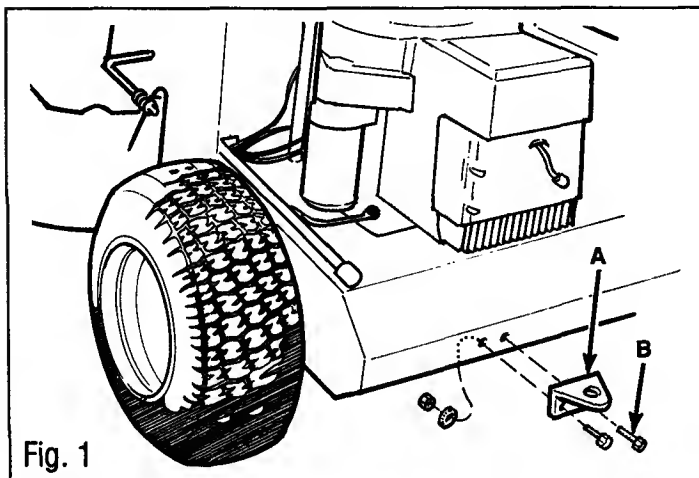

Fig. 1
1. Cut the ties holding the hitch to the ignition key (No hitch on Model 13000). Secure the hitch (A, Fig. 1) to the rear of the frame with two 1/2-13 x 1 hex screws, lock washers and hex nuts (B). Install the washers and nuts on the inside of the frame.